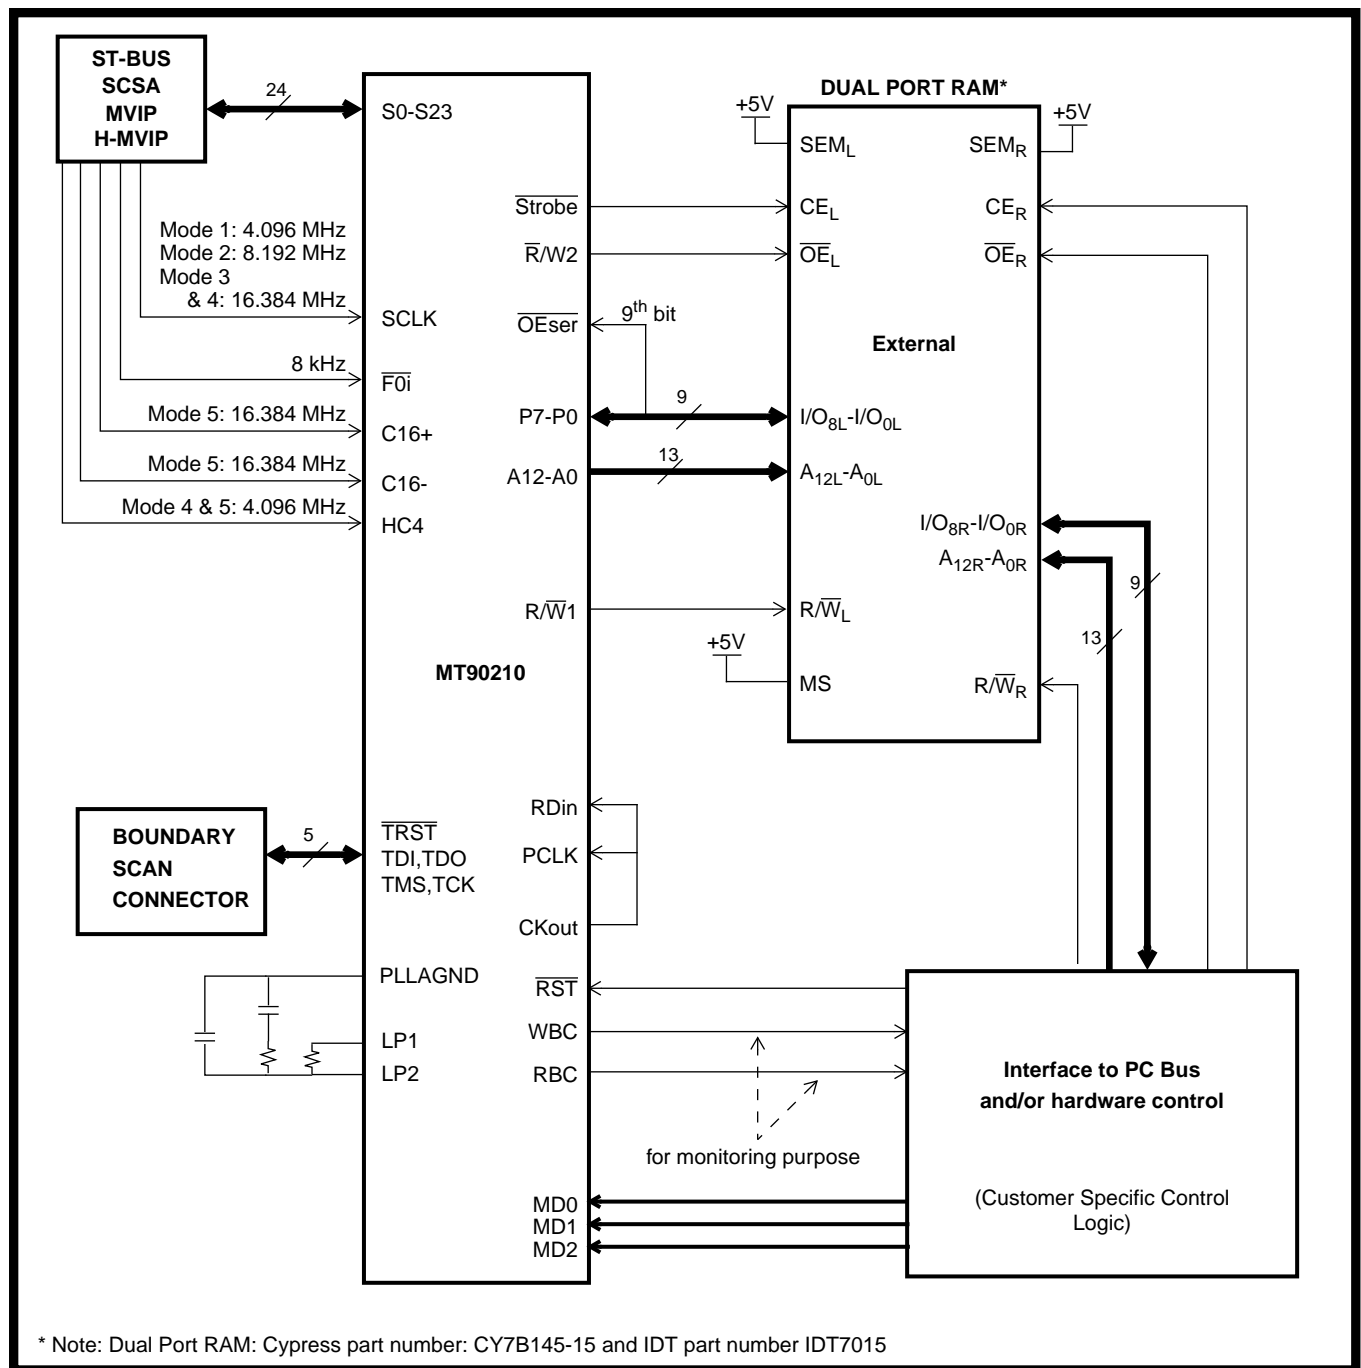

Figure 9 - Functional Example of the MT90210 Application Circuit
port RAM and connecting the ninth bit to  $\overline{\text{OEser}}$  as shown in Figure 9, the processor may disable an individual channel by setting the ninth bit for that channel in the transmit (TX) portion of the current block. The remaining 8 bits for this channel may be any value since they are ignored by the MT90210 when the ninth bit is 1. To avoid contention on the serial bus, it is recommend that the user configure all serial streams as inputs at start-up. This may be done by setting all  $\overline{\text{OEser}}$  bits to 1 in the TX portions of both memory blocks. In mode 3, the serial streams are permanently configured as 12 inputs and 12 outputs, and the state of  $\overline{\text{OEser}}$  is ignored.
provided by the MT90210: (i) the 24/2 mode in which all 24 lines operate at 2.048 Mb/s and (ii) the mixed rate of operation in which 16 streams operate at 2.048 Mb/s and the remaining 8 streams operate at 8.192 Mb/s data rates. When operating at 8.192 Mb/s rates, the MT90210 automatically terminates the C16+ and C16- differential clocks specified by the H-MVIP specifications. Figure 9 shows a functional block diagram of the MT90210 in a typical application.